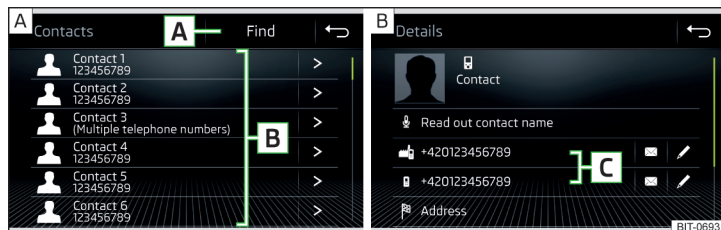

Fig. 182 List of telephone contacts / contact details
► In the *Telephone* main menu, tap on the function surface  and a list of telephone contacts will be displayed » Fig. 182- A.